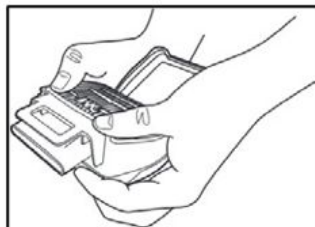

Fig.6
- Align the larger half of the retainer with the back (flat side) of the cartridge. Using both hands, press the retainer onto the cartridge, ensuring you press on all four corners of the cartridge/filter retainer (Fig. 6). The filter retainer has touchpoint indicators on each corner. You should hear the retainer click into place.